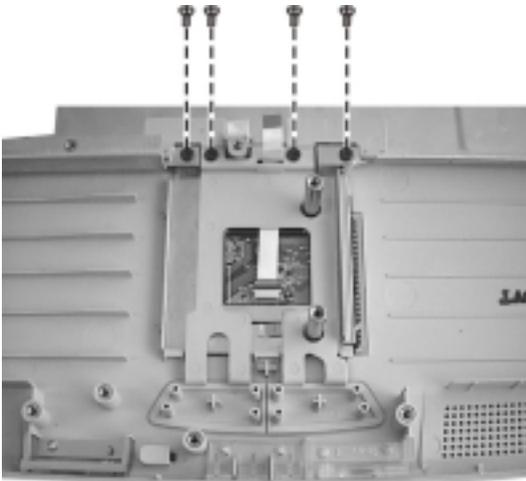

Figure 5-27
2. Remove the four screws to lift up the touchpad holder and touchpad panel. (figure 5-27)